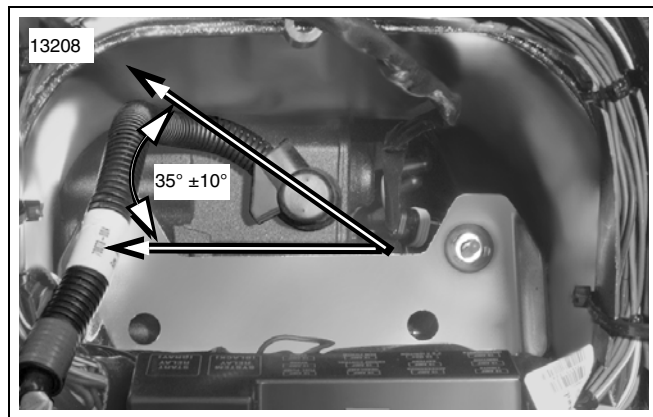

Figure 1. Battery Cable Orientation
4. See Figure 1. Reposition positive battery cable routing at starter. Cable must face 35° forward from left side of vehicle $\pm 10^{\circ}$.